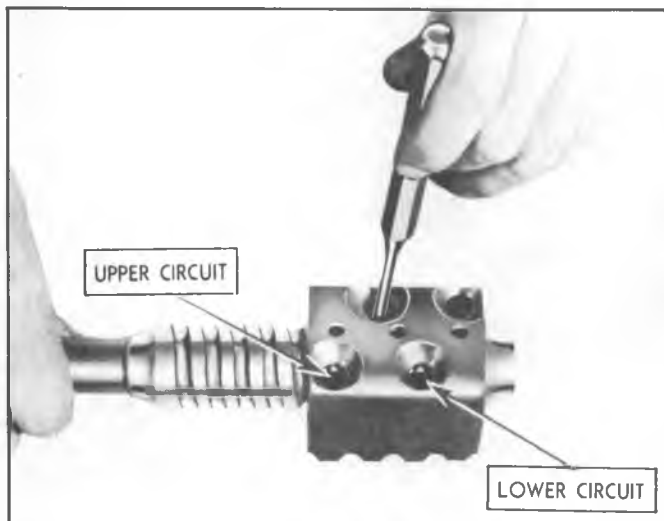

Fig. 11--Filling Ball Circuit in Nut
**NOTE:** In cases where the balls are stopped by the end of the worm, hold down those balls already dropped into the nut with the blunt end of a clean rod or punch (fig. 11) and turn the worm in the reverse direction a few turns. The filling of the circuit can then be continued. It may be necessary to work the worm back and forth, holding the balls down first in one hole then the other, to close up the spaces between the balls and fill the circuit completely and solidly.